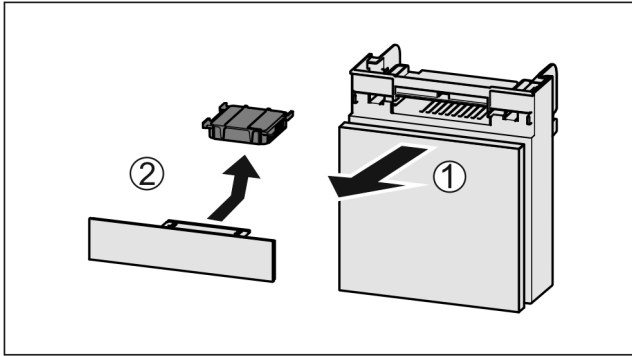

Fig. 107
- ▶ Pull out the compartment Fig. 107 (1).
- ▶ Remove the carbon filter Fig. 107 (2).